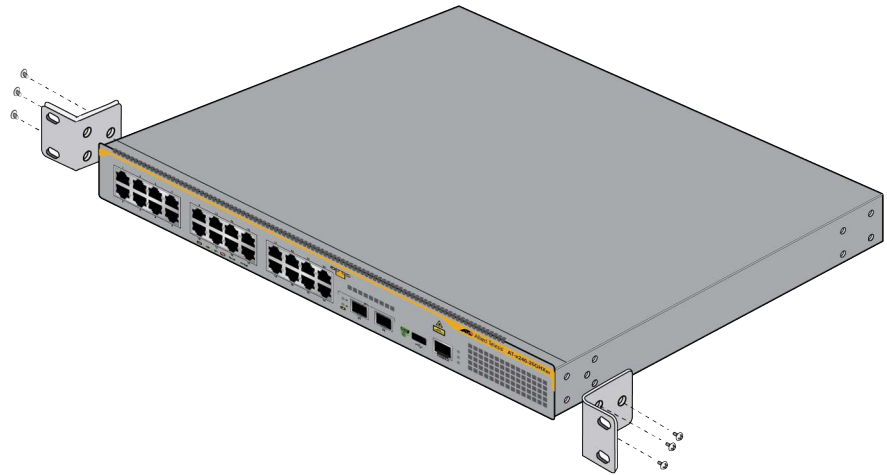

Figure 45. Attaching the Equipment Rack Brackets to the x240-26GHXm Switch
3. Attach the two brackets to the sides of the switch, using the six M4x8mm screws supplied with the unit. See Figure 45 as an example.